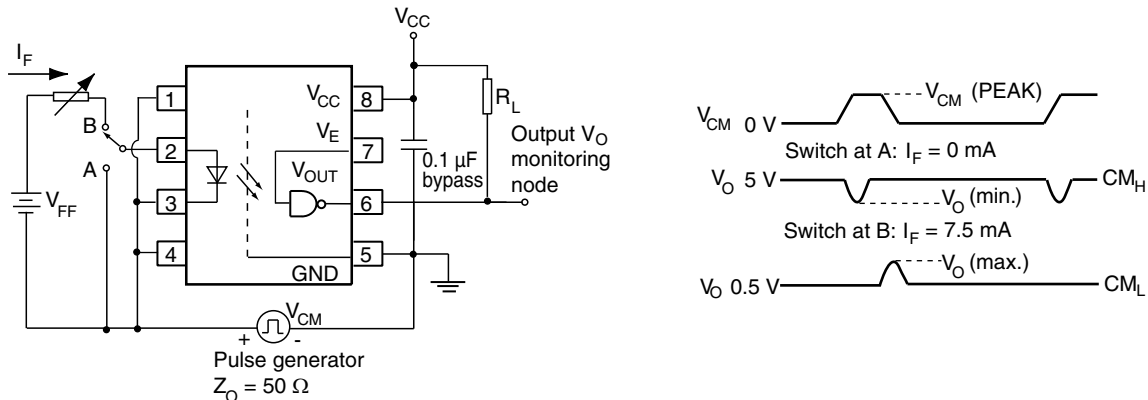

Fig. 4 - VOW137 Test Circuit for Common Mode Transient Immunity
- (1) Over recommended temperature ( $T_{amb} = -40 \text{ }^\circ\text{C}$  to  $+100 \text{ }^\circ\text{C}$ ),  $V_{CC} = 5 \text{ V}$ ,  $I_F = 7.5 \text{ mA}$  unless otherwise specified. All typicals at  $T_{amb} = 25 \text{ }^\circ\text{C}$ ,  $V_{CC} = 5 \text{ V}$ .
- (2) Minimum and maximum values are testing requirements. Typical values are characteristics of the device and are the result of engineering evaluation. Typical values are for information only and are not part of the testing requirements.
- (3) With pulling  $V_E$  to logic high state will improve the CMR performance.
- (4) VOW137 CMTI test circuit refer to figure 4.